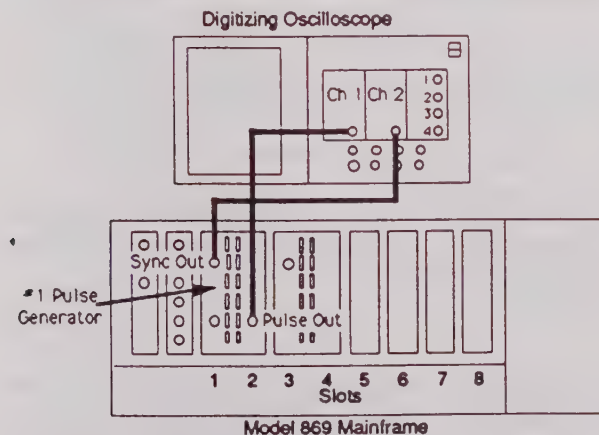

Figure 2-12. Delay and Width Accuracy Hookup
- Interconnect the required test equipment as shown in figure 2-12. Verify that cables and oscilloscope channel delay skewing are matched within ± 250 ps.
- Interconnect the required test equipment as shown in figure 2-12.